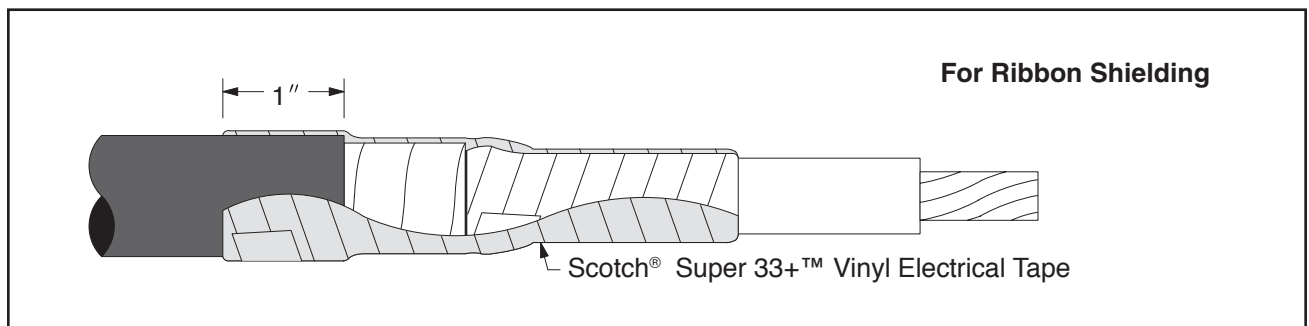

Figure 9a
- 6.2 Wrap two half-lapped layers of vinyl tape over the Scotch® Stress Control Tape 2220 and one inch onto cable jacket. (1/2" beyond cut off, bent back shield wires for wire and UniShield® cables. Figures 9a, 9b or 9c, depending on type of cable shielding).